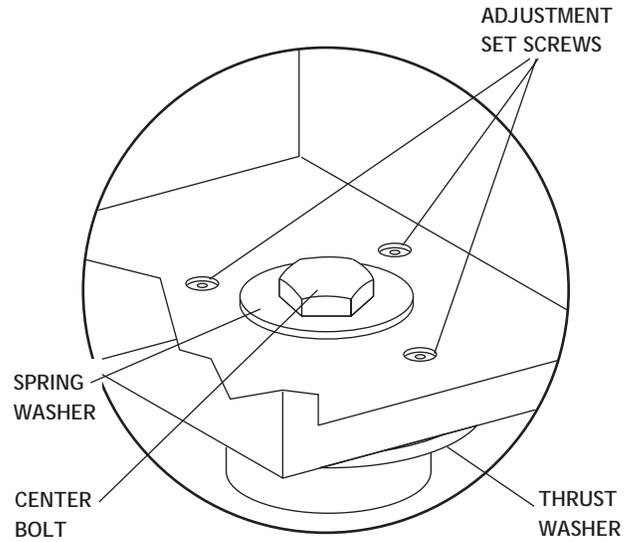

Figure 8. Leveling Adjustment
3. Using a $\frac{3}{16}$ -inch hex key, adjust the three setscrews (see *Figure 8*) until the unit is level. Make sure the setscrews are adjusted so all three contact the thrust washer located between the bottom of the post box and the unit mount.
4. Tighten the center bolt so it is snug and the spring washer (see *Figure 8*) is flattened. When properly adjusted, the post box will be level and will not wobble.